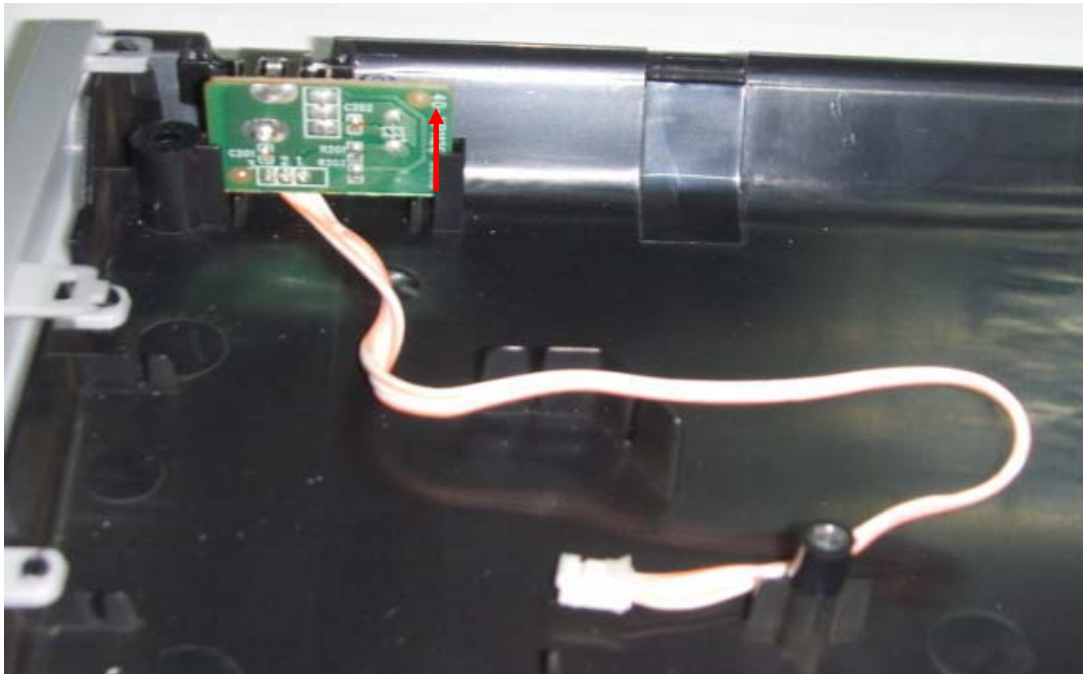

Figure 8
Step6: Dismantling IR board: remove the IR board follow the red sign, then can remove the IR board. (Figure8)